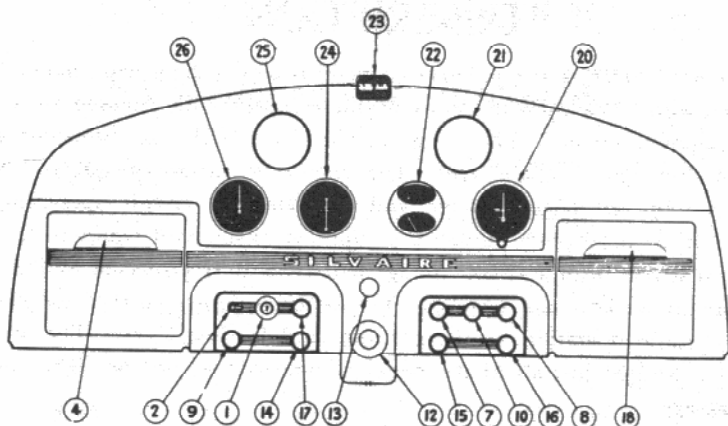

FIGURE 1
Adequate ventilation has been arranged by providing cabin fresh air (see figure 1 for location of control), and left and right hand door windows which may be opened. Cabin heat is also provided (see figure 1 for location of control). The throttle control, trim tab adjustment crank, fuel shut-off valve and electrical panel are centrally located so as to be easily accessible from either seat. The airplane is supplied with individual seat belts (each of which is approved for two persons), and a shock mounted instrument panel for engine and flight instruments. Engine and flight instruments include (see figure 1) oil pressure and temperature gauges, tachometer, ammeter, air speed indicator, altimeter, and compass.
STARTING: (See figure 1 for location of controls)
1. Heat is off when the knob is in, and on when knob is out (*see figure 1*).
1. The fuel selector valve must be on either RIGHT TANK or LEFT TANK during all flight. (*see figure 1 for location of fuel valve*).
1. The carburetor mixture is full RICH when the knob is IN and full LEAN when the knob is OUT. (*see figure 1 for location of mixture control*).